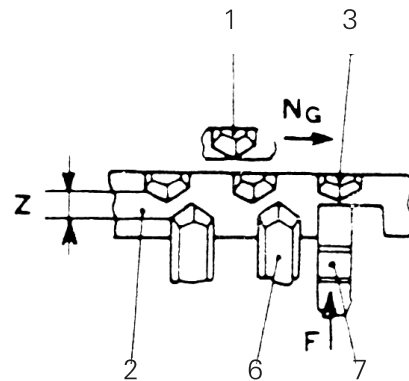
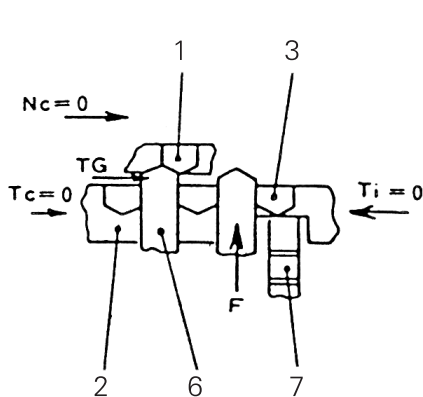
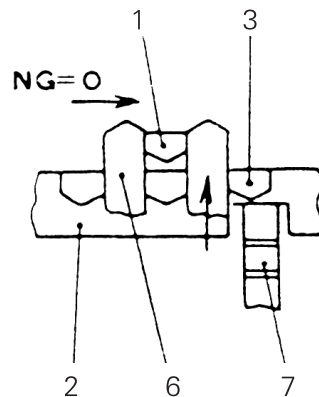

Fig. 3-6
Fig. 3-9
Fig. 3-10
3rd Step (See Fig.3-6)
Fig.3-6 to Fig. 3-10 are all vertical views.
6th Step (See Fig.3-9 and Fig. 3-10)
While passing through the block ring, the mesh sleeve shifts by a distance of  $Y$ , shown in Fig.7 and the chamfers of the mesh sleeve spline (6) come into contact with the chamfer of the spline (6) (See Fig.3-9). Due to the contact of chamfers, the torque  $T_c$  turns the gear (11) over an angle relative to the mesh sleeve and meshes the mesh sleeve spline with the spline (6).